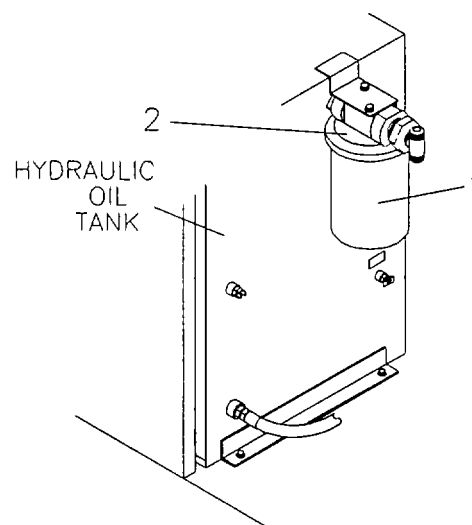

Figure 4-3. Hydraulic Oil Filter.
d. Filter removal. Refer to figure 4-3.
1) The hydraulic fluid filter (1) is a disposable spin-on cartridge type filter located inside the housing at the front of the hydraulic fluid tank. To remove the filter, turn counter clockwise using a band type filter wrench.
e. Filter installation. Refer to figure 4-3.
2) Turn the new filter (1) clockwise to the filter housing (2) until the rubber gasket just makes contact with the housing sealing face.
3) Turn the filter (1) another 1/4 to 1/2 turn.